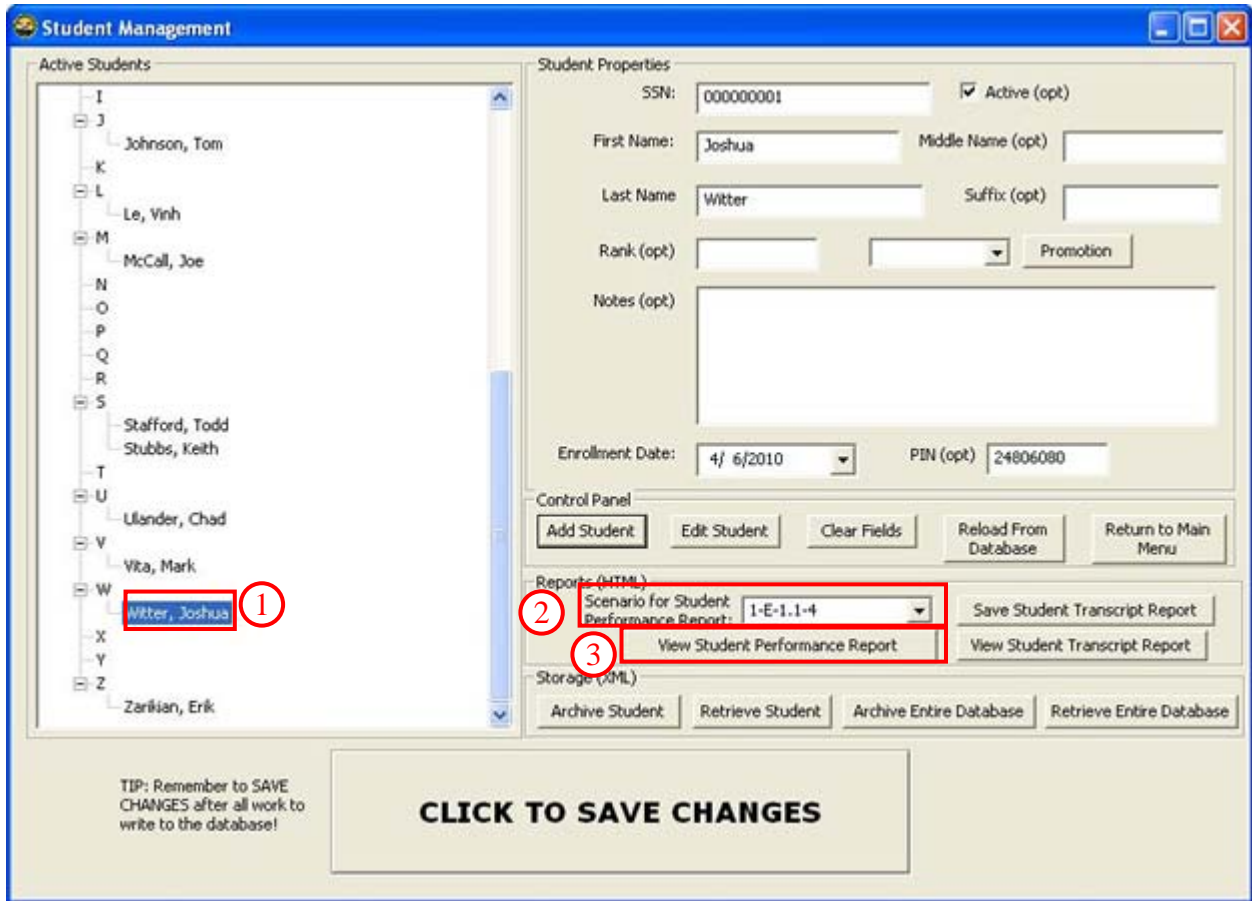

Figure 53. Student Management - View Student Performance Report
1. Select a student from the Active Students list (Figure 53).